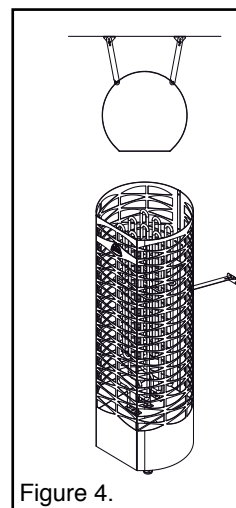

Figure 4.
- The heater must be attached to the wall or to the benches using two support irons, as illustrated in Fig. 4.